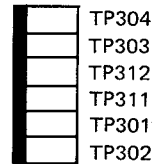

Figure 44.
- 3) Place the oscilloscope in the dual mode. Connect CH1 probe between TP304 and TP303 (GND), and CH2 probe between TP301 and TP302 (GND). The TPs are arranged as shown in Fig. 44.